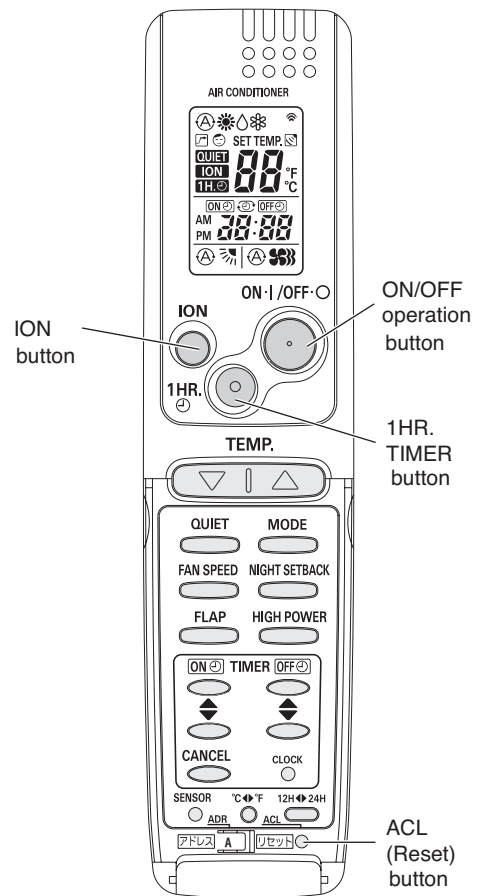

Fig. 59a
(Fig. 59a)
(2) Start Cooling mode test run by pressing the ON/OFF operation button of the remote controller. (Fig. 59a)
(3) Press the ON/OFF operation button of the remote controller again to stop the test run. (Fig. 59a)
(4) Finally press the ACL (reset) button of the remote controller to release it from Test Run mode to return to normal mode. (Fig. 59a)